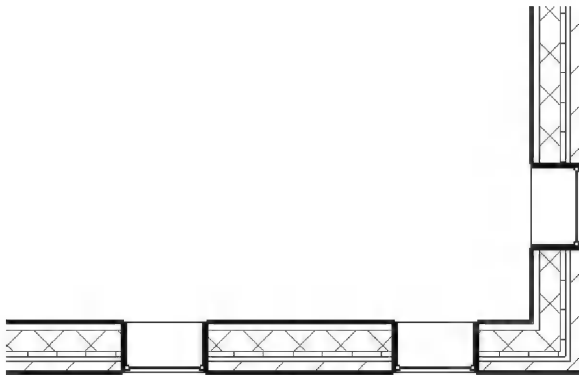

FIGURE 8-2.2 Level 1 – south-east corner
- Switch to **Level 1** plan view; notice the window is added (Figure 8-2.2).
*TIP: If the window is towards the inside, use the control arrows to flip the window within the wall. It should look like the window in Figure 8-2.2.*
11. Add the same layout of windows (Figure 8-2.2) to the West elevation.